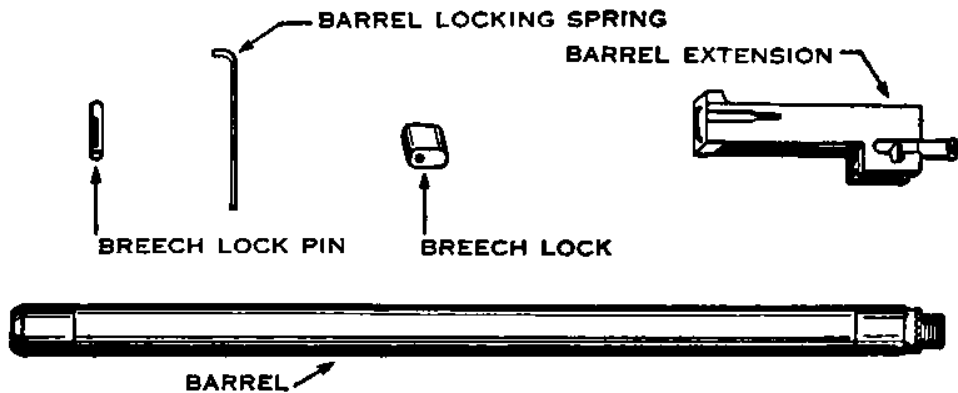

FIGURE 7.—Barrel and barrel extension group.
■ 16. DETAILED DISASSEMBLING OF BARREL EXTENSION (fig. 7).—a. Insert the rim of a cartridge under the front edge of barrel locking spring and pull it out to the front.